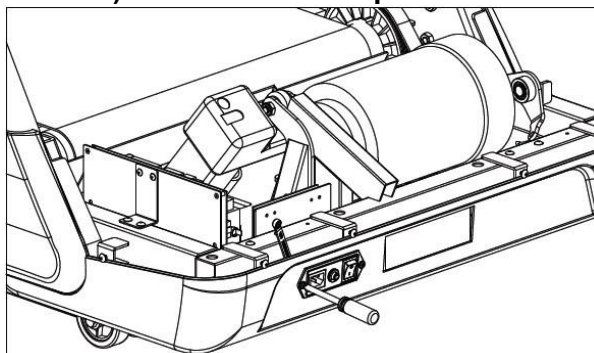

Figure 6.4.2
7) Remove the A/C power switch module and switchboard as shown in Figure 6.4.2.